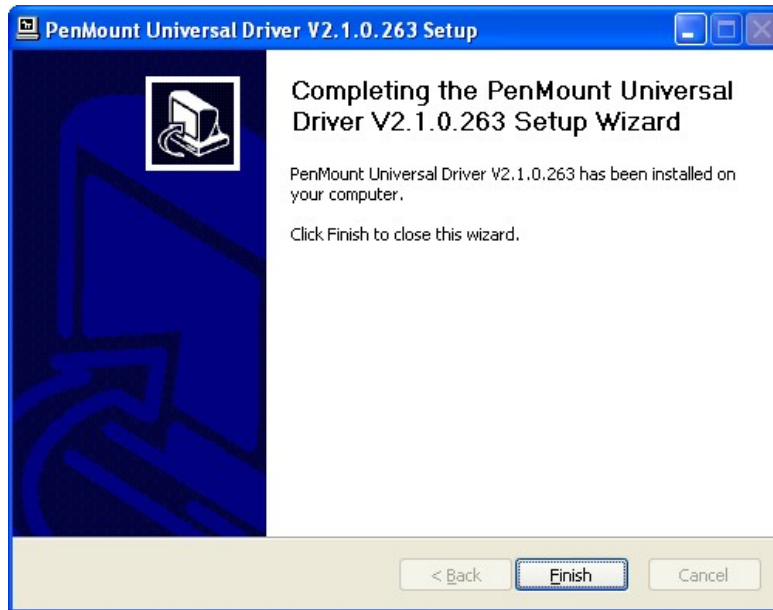

Figure 6-29: PenMount Universal Driver Update Complete
Step 10: When the installation is complete, click **FINISH** to exit setup (Figure 6-29).